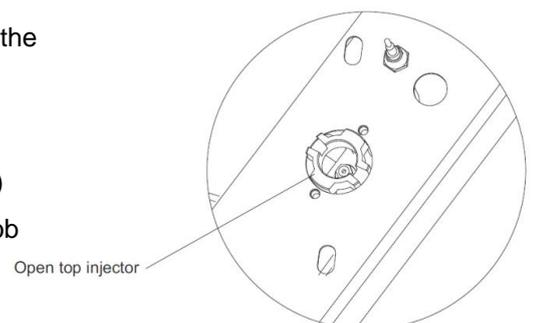

Figure 6
3.3.1 Open Top Burners - To Replace Injector (Refer to Figure 6)